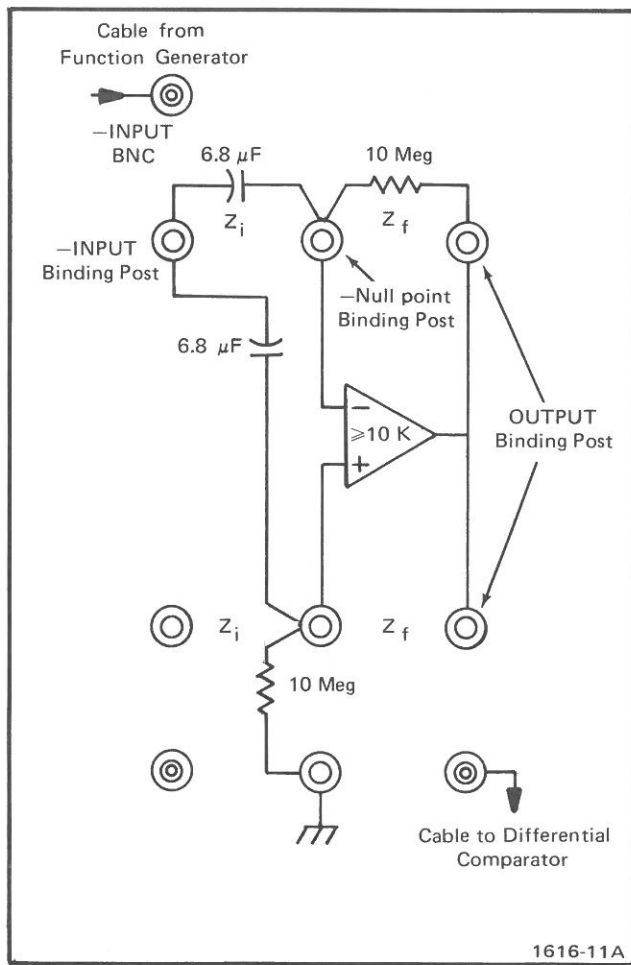

Fig. 2-2. Operational amplifier connected to check Common Mode Rejection Ratio.
b. Connect the two 6.8 μF capacitors and the two 100 $\text{M}\Omega$ resistors to the terminals of the AM 501 as illustrated in Fig. 2-2.